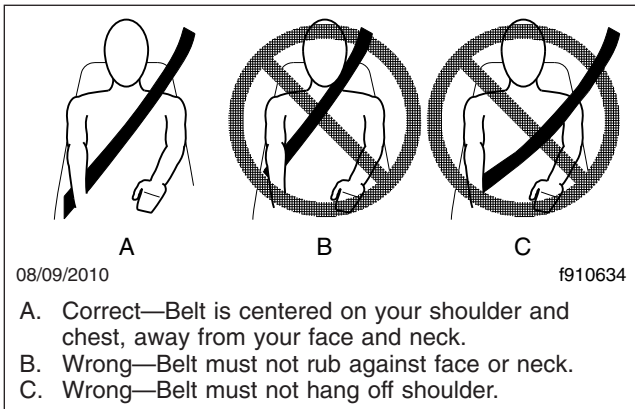

Fig. 5.9, Proper Shoulder Strap Fit
3. Position the shoulder strap diagonally across your chest with the adjustable D-loop bracket (if equipped). The shoulder strap must be centered on your shoulder and chest, away from your face and neck. See **Fig. 5.9**. If desired, engage the Komfort Latch as follows.
5. Position the shoulder strap diagonally across your chest with the adjustable D-loop bracket (if equipped). The shoulder strap must be centered on your shoulder and chest, away from your face and neck. See Fig. 5.9.